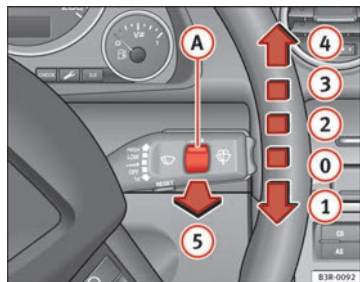

Fig. 101 Windscreen wiper lever
The windscreen wiper lever ⇒ fig. 101 has the following settings:
With the lights switched on, operate the automatic wash and wipe ⇒ fig. 101 ⑤, and keep the lever pulled towards you for at least 1 second.